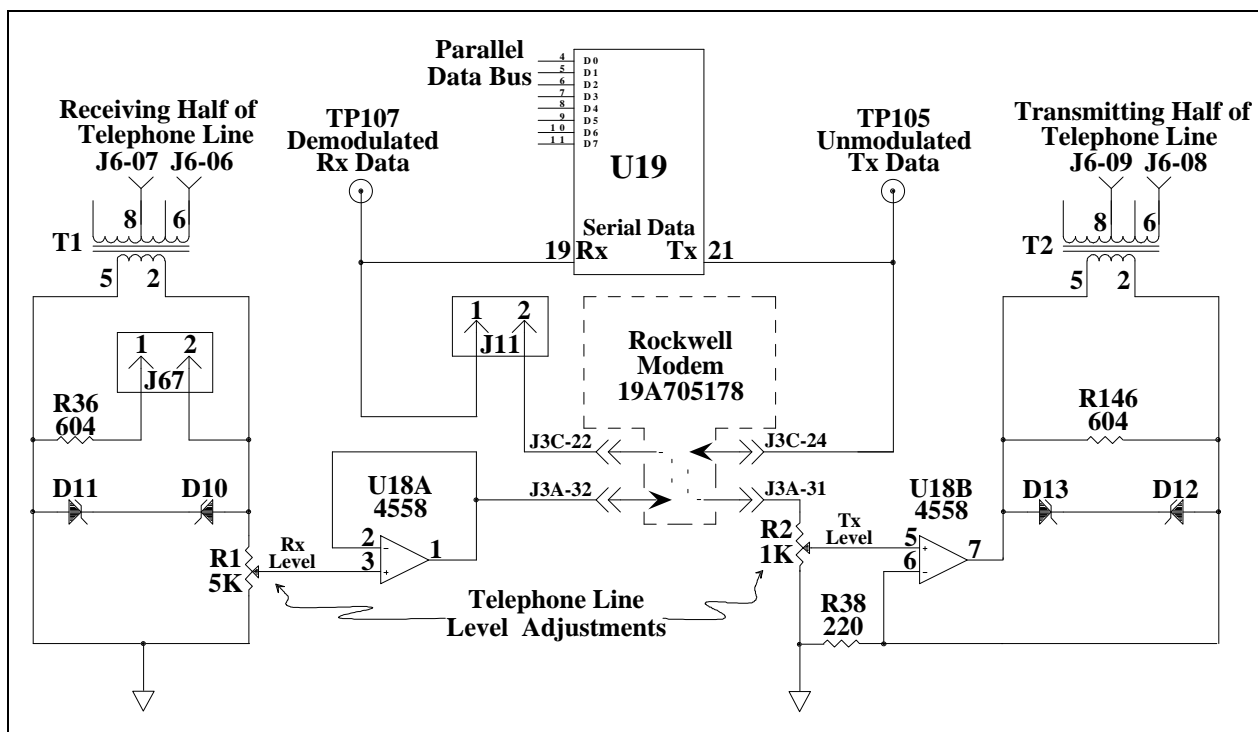

Figure 3 - GETC Phone Line Level Adjustments
3. Adjust the receive level by monitoring U18 pin 1 (refer to Figures 3 and 4) and adjusting the receive level potentiometer R1 (located on the GETC Logic Board) for 400 mVpp as measured with an oscilloscope (85 mVrms if using an RMS Voltmeter).